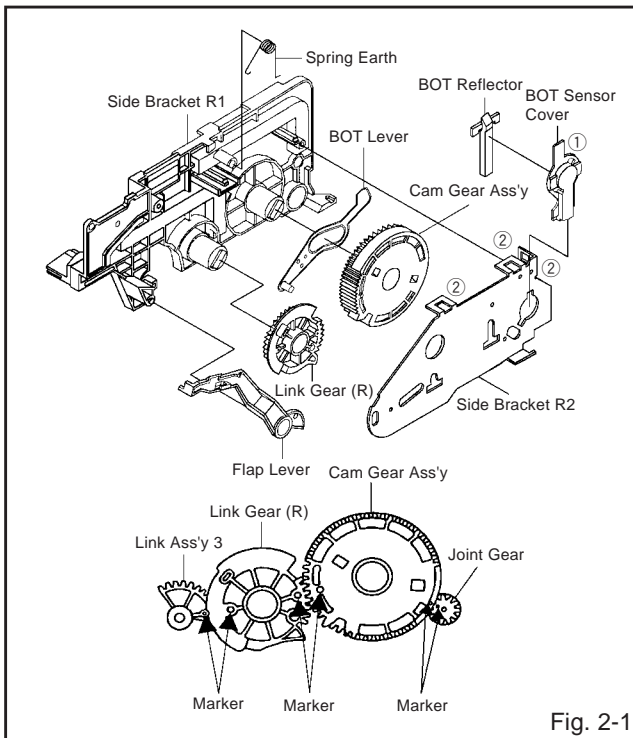

Fig. 2-1
2-1: LINK GEAR (R) / CAM GEAR (Refer to Fig. 2-1)
1. Unlock the support ①.
3. Unlock the 3 supports ②.
5. Remove the Flap Lever, Link Gear (R), Cam Gear Ass'y and BOT Lever.